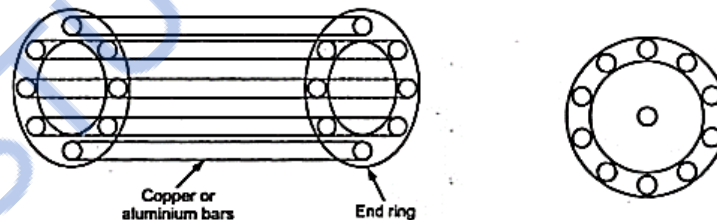

Figure. 4.18 Cage type rotor
- The entire structure looks like cage hence called squirrel cage rotor. The construction and symbol is shown in the Fig.4.18.